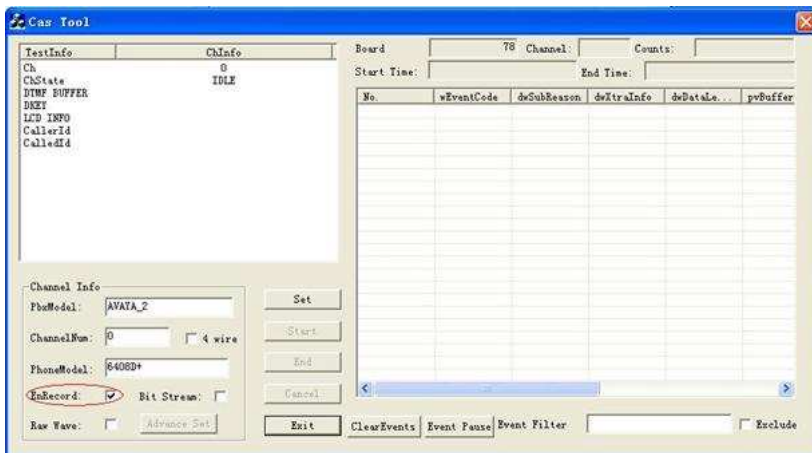

Figure 2-3
**Step 3:** If you need recording, tick the check box after 'EnRecord' as shown in Figure 2-3.